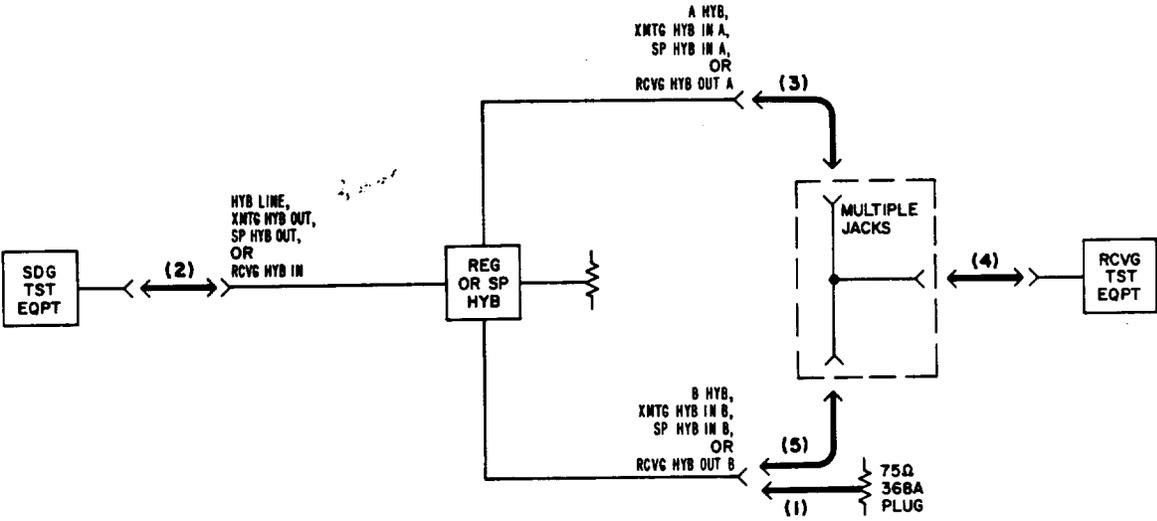

Fig. 1—Transmitting, Receiving, and Spare Hybrid Tests
4	Insert the 368A termination plug designated (1) in Fig. 1.
5	Make patches designated (2), (3), and (4) in Fig. 1.
8	Make patch designated (5) in Fig. 1.